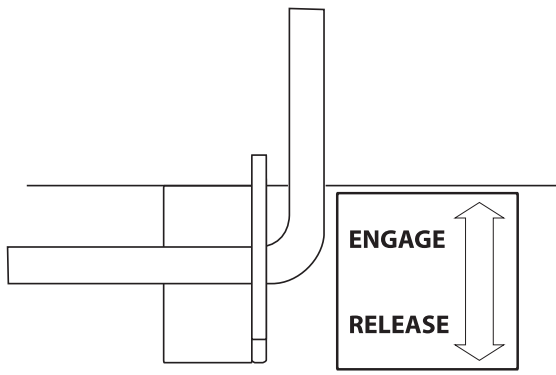

Figure 8
1. To hold recliner in any position, rotate handle to point up (See fig. 8).